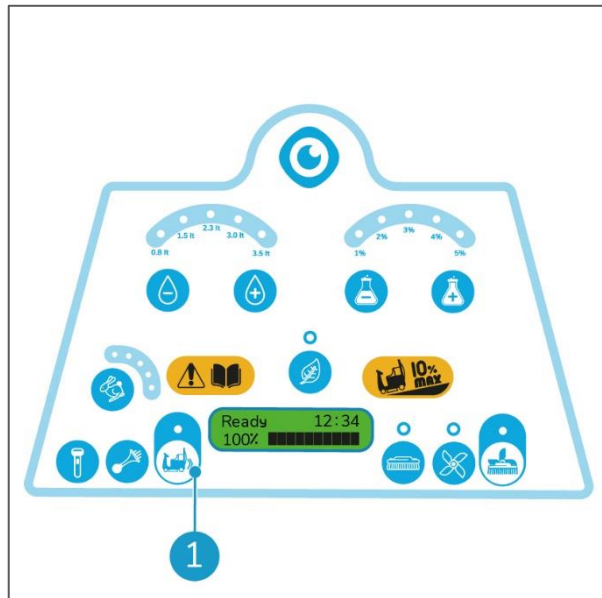

Figure 24
2. Press push button (Figure 24, pos 1) to select reverse drive.